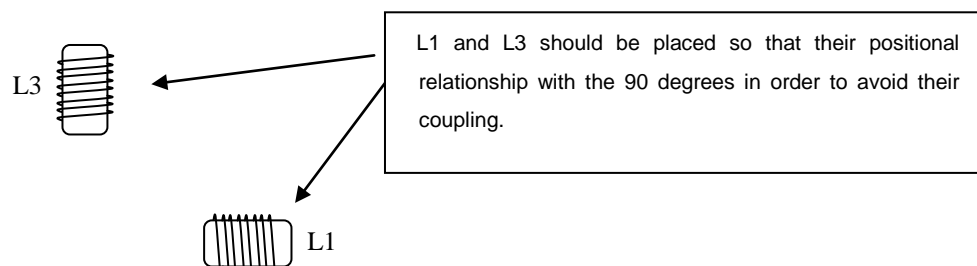

Figure 4.2.2 Placement of L1 and L3
- 2.1. As shown in the Figure 4.2.2, VCO tank inductor L1 and PA choke inductor L3 should be placed so that their positional relationship becomes the 90 degrees to avoid their coupling.